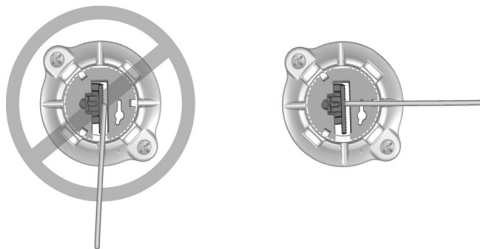

Figure 23. Placing the DBS Lead into the Lead Exit Slot
- Gently fold the DBS Lead over and place it inside one of the four Lead Exit Slots in the Base of the Burr Hole Cover (Figure 23).